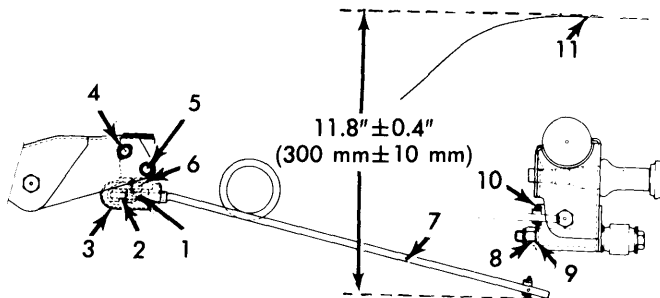

Fig. 3 Brake Pressure Regulator Measurement and Adjustment Points for Brava Models
Brava — Install regulator and leave the mounting bolts loose. Bring torsion bar (7) to dimension shown in Fig. 3 from the base of buffer end (11). Remove rubber boot (3) from regulator, then rotate regulator until piston (6) is just touching torsion bar (1). Tighten mounting bolts.